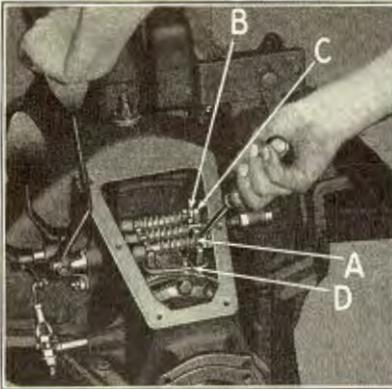

Fig. 306
- 518** Compress transmission band springs (See "A" Fig. 306) with a screw driver until the springs are positioned between lugs on band with the transmission band washers "B" outside of lugs; the raised point on the washers should point outward so that they will fit into notch "C" on nuts. Withdraw clip "D" and force the transmission cover down until the cover seats squarely on gaskets.
542 It is important that the lockwasher be assembled to the shaft with raised point on the washer facing out so as to engage with the slots in the nuts as shown in Fig. 306.